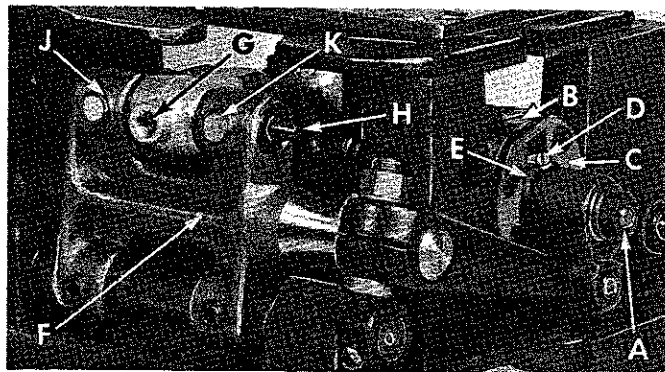

Fig. 10
Set the stitch to required length. This is accomplished by loosening the locknut (A, Fig. 10)  $1/2$  turn (it has a left hand thread) on the end of the stitch regulating stud and turning the stitch adjusting screw (B) located under the left end of the cloth plate, in the head of the mainshaft (C), which is marked with "L" and "S". Turning the screw clockwise shortens the stitch (moves stitch regulating stud toward the "S") and turning it in a counterclockwise direction lengthens the stitch (moves stitch regulating stud toward the "L"). Retighten the locknut securely.
The needle bearings in the feed rocker (F, Fig. 10) should be checked and lubricated once a year. This can be accomplished as follows. Loosen allen screw (G), and remove shaft (H). Now, repack bearings.
When packing bearings, the parts must be clean and grease should be applied directly from the tube to avoid contamination. Tube of grease can be supplied under the part number 28604 P. Greased bearings are located at (J, K, Fig. 10). If grease sealed bearings are replaced they should be pressed in flush with the casting. To assemble, start tapered end of shaft first, twisting slightly when entering the grease seals to prevent damage.